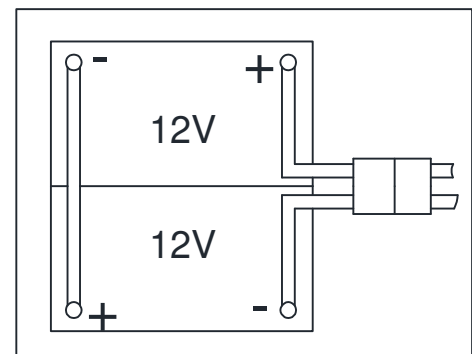

Figure 3
The machine requires two 12 V batteries, connected according to the diagram (Figure3).
1. Open the recovery tank cover (1) and check that the recovery tank (25) is empty; otherwise empty it with the drain hose.(22)
2. Close the recovery tank cover (1).
3. Overturn the recovery tank (25) carefully.
5. Route and install the battery cable as shown in (Figure3), then carefully tighten the nut on each battery terminal.
6. Place the protection cap on each terminal, then connect the battery connector (54).
7. Carefully lower the recovery tank (25).